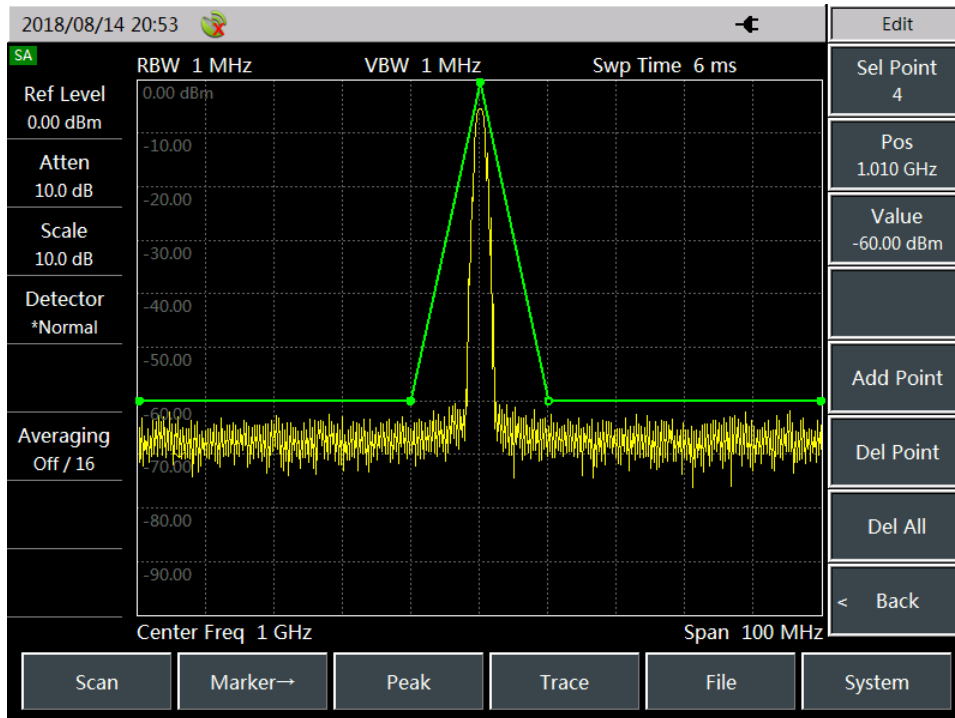

Figure 3.13 Use of limit lines
1. **Limit Line:** In batch tests, users have their own standards of qualification. In response, 4957D/E/F provides the [Limit] function of [Trace] in the Spectrum Analyzer mode to set the limit lines, which can facilitate product inspection. During batch testing, it is possible to judge whether a product is qualified by replacing the DUTs. The limit line function can be used to monitor signals in a certain frequency band. The 4957D/E/F microwave analyzer provides two limit lines, upper and lower. When the amplitude of a signal in a certain frequency band exceeds the set upper limit or is less than the set lower limit, the analyzer will send out an audio alarm signal. It can also store / recall the limit lines, thus avoiding repeated editing of the limit lines. Figure 3.13 shows an edited limit line.